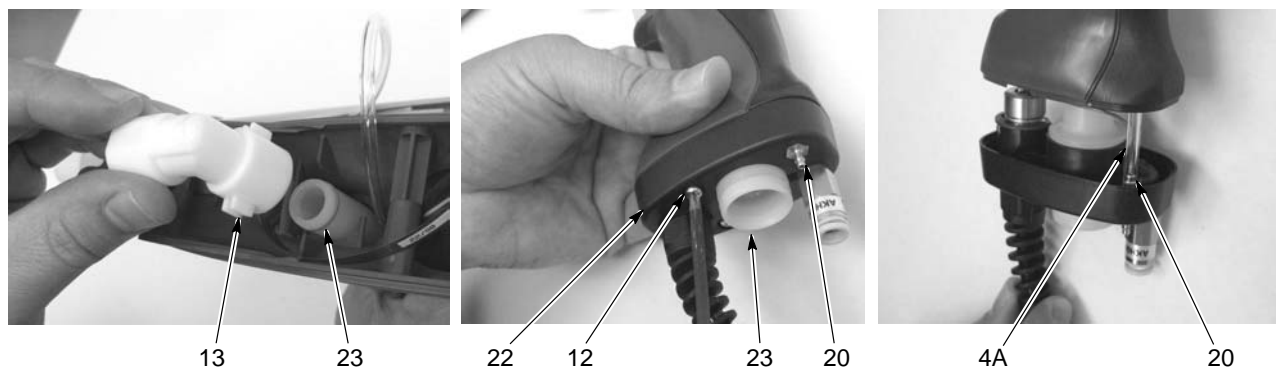

Figure 5-7 Removing the Elbow and Separating the Base from the Handle
7. See Figure 5-7. Remove the elbow (13) from the inlet tube (23).
8. Remove the two M3 x 20 screws (12) securing the handle base (22) to the handle assembly.
10. Pull the clear 4-mm tubing (4A, part of filter assembly) off the barbed fitting (20).